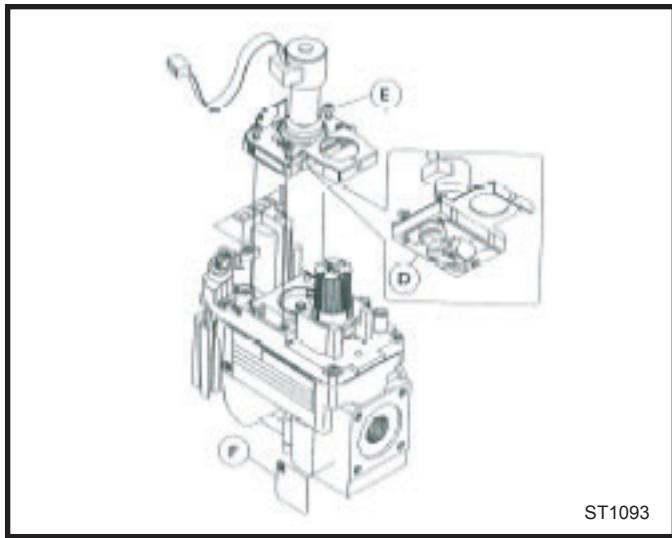

Fig. 75 Remove mounting screws from old pressure regulator assembly. Replace step motor with new conversion step motor.
1. Using the TORX T20 bit remove and discard the three (3) pressure regulator mounting screws from the old pressure regulator assembly. (Fig. 75)
2. Insure the rubber gasket (D) is properly positioned and install the new step motor (E) pressure regulator assembly to the valve using the new screws supplied with the kit. Tighten the screws securely. (Ref. torque = 25 in/lb) (Fig. 75)
3. Install the identification label (F) supplied with the stepper motor to the valve body where it can easily be seen. (Fig. 75)